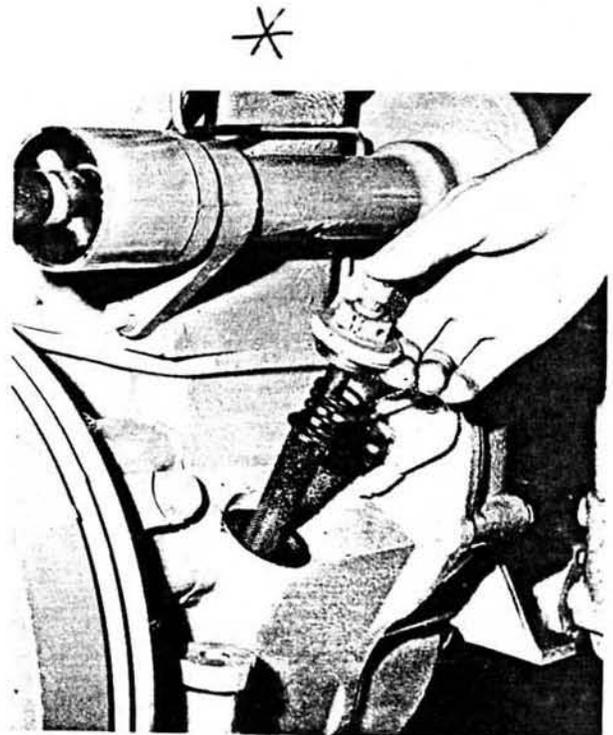

Fig. 43. Removing the oil strainer
1. Loosen the square nut on the strainer. Lift up the strainer, Fig. 43.